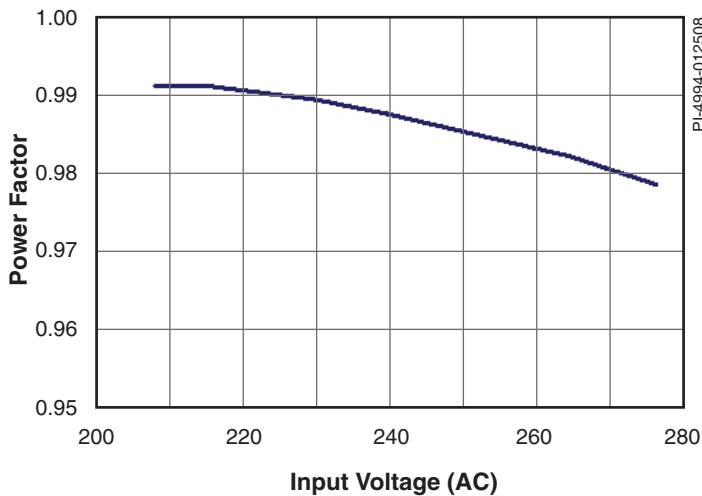

Figure 3. Power Factor (PF) Plotted Against Input Line Voltage (VAC).
- Meets minimum PF requirement of 0.9 for industrial environments (>0.97 worst case at 277 VAC, see Figure 3)